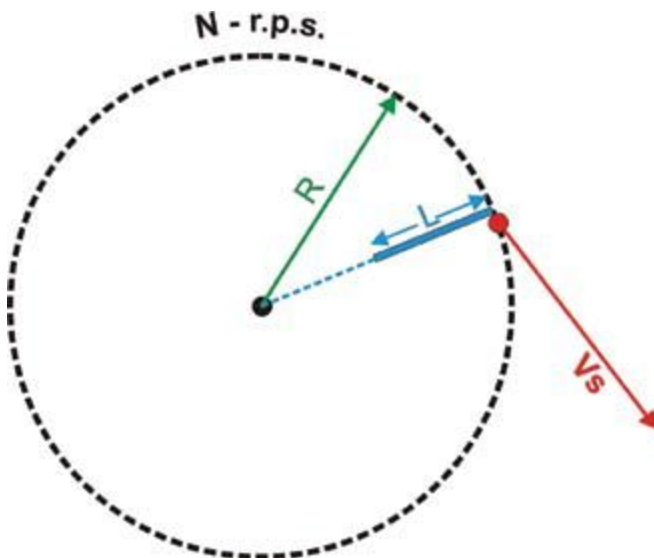

Fig.9. Wheel-blast variables contributing to thrown shot velocity.
It has been shown (ref.2) that the velocity of shot as it leaves the blade tip,  $V_S$ , is a simple function of wheel speed,  $N$ , blade length,  $L$ , and wheel radius,  $R$ . These factors are shown in fig.9. The corresponding equation for estimating  $V_S$  is: